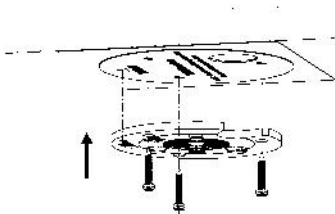
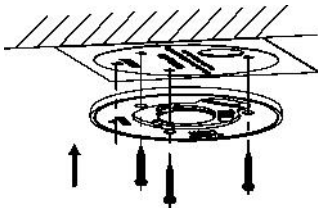

Figure 2-34 For IPC574-PTZ PTZ Camera
Figure 2-35 For IPC574-PTZ PTZ Camera
4. Attach the base plate to the ceiling and secure it with the supplied three self-tapping screws by aligning with three screw holes in the ceiling, and the front arrows on the drill template and base plate should be aligned together as well, as shown in Figure 2-34 and Figure 2-35.